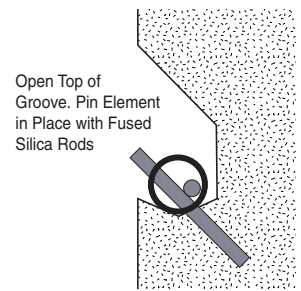

Fig. 20 An open Groove would let more of the heat out
2. Open top of groove to let more of the heat out (see figure 20)